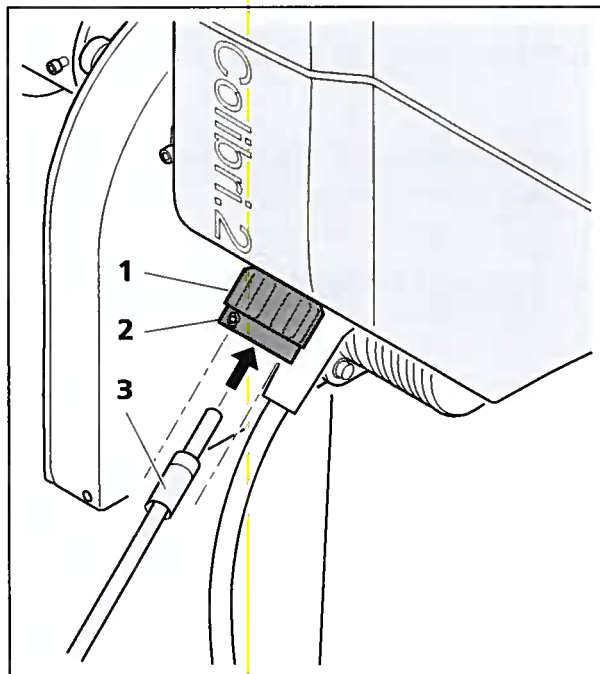

Fig. 6-5 Connect optical fiber to Colibri.2
- Loosen the fixing screw (Fig. 6-5/2) and the cap nut (Fig. 6-5/1) and insert the metal end (Fig. 6-5/3) into the collet chuck until it stops.
- Then hand-tighten the cap nut (Fig. 6-5/1) and the fixing screw (Fig. 6-5/2) again.